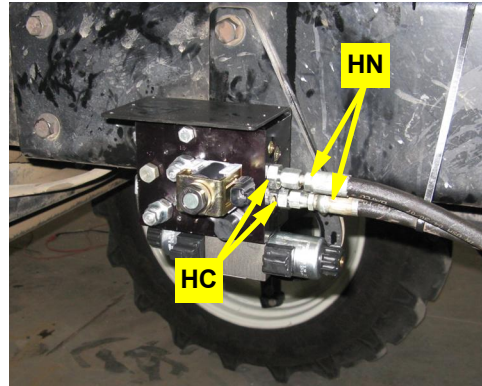

Figure 5c: Pressure and tank hoses connected at steering block
- c. Connect the pressure and tank hoses **HN** to adapter fittings **HC** in the **P** and **T** ports on the hydraulic steering block (Figure 5c).